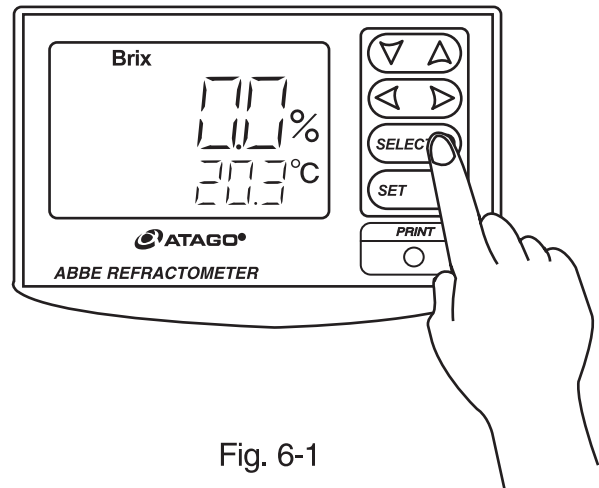

Fig. 6-1
- ① Every time the SELECT key is pressed, mode indication changes from "nD", "Brix", "Test" to "nD" repeatedly in this order (Fig. 6-1).